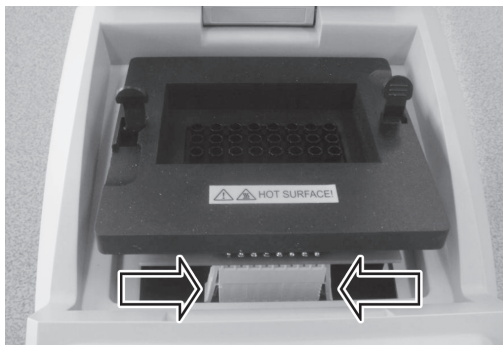

Fig.21
2.5.2 Press and remove the connector as Fig. 21